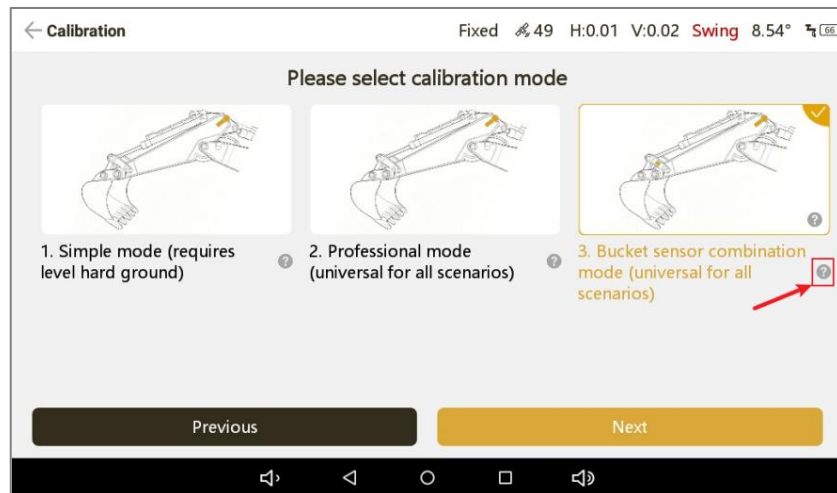
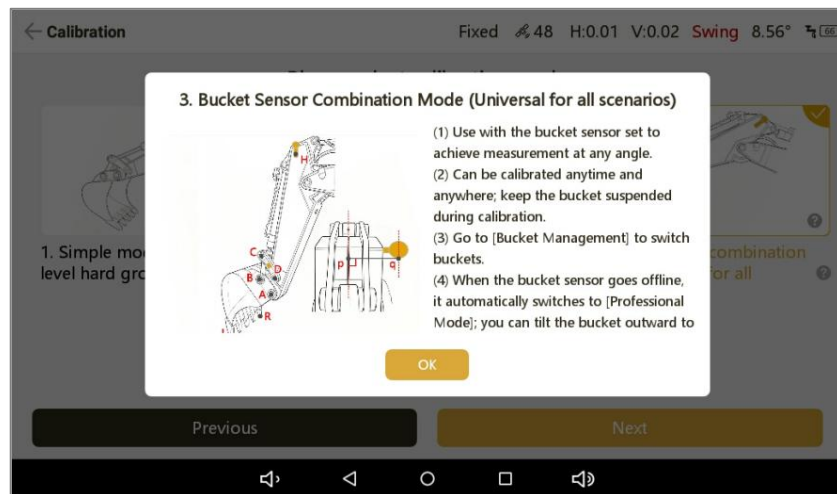
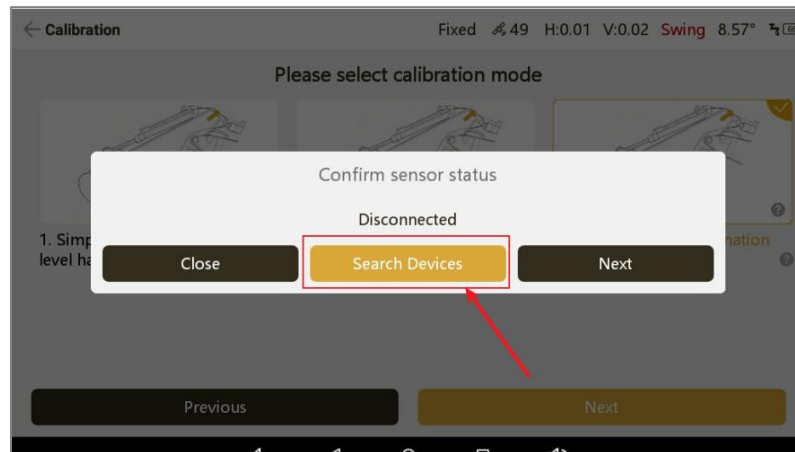
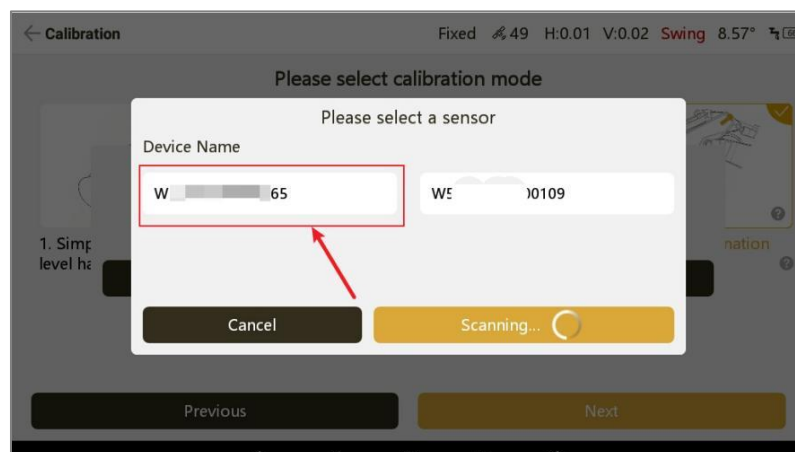

Figure 3-65
Figure 3-66
Figure 3-67
Figure 3-68
- ⑤ Enter the excavator name, then tap 'Next' at the bottom to enter the calibration mode selection screen, as shown in Figure 3-65. Select the third option '3. Bucket sensor combination mode (universal for all scenarios)'. The question mark icon on the right can be tapped to view detailed instructions for this mode, as shown in Figure 3-66. This calibration mode has no site restrictions and can be used in all scenarios.
(4) Connect the bucket attitude sensor.
- ① Tap 'Next' at the bottom of Figure 3-65 above. The sensor status confirmation screen will appear, as shown in Figure 3-67. Tap 'Search Devices' to bring up the sensor selection screen, as shown in Figure 3-68. Tap the sensor ID to begin Bluetooth pairing.